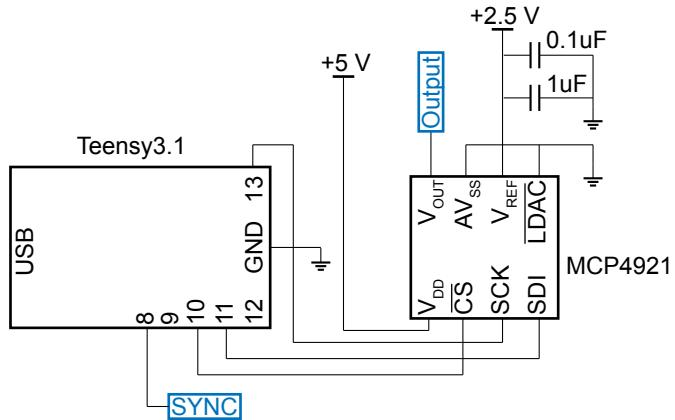

Figure 13: Schematic of the connection between Arduino UNO and the MCP4921.
1. Using Fig. 13 as a reference, connect the Teensy to the MCP4921 DAC. Connect the MCP4921's VDD pin to the output of the LM317 regulator (5 V). Connect the MCP4921's VREF pin to the LT1009 reference's output (2.5 V). Connect both AVSS and \overline{LDAC} of the MCP4921 to ground. A $0.1\ \mu F$ and a $1\ \mu F$ capacitor could be used at VREF to minimize noise at the reference. It is very important to keep your circuit (ICs, resistors, capacitors, wires, etc) organized. Use as short of a wire as possible between two connection points. Refer to Fig. ?? for an example layout.